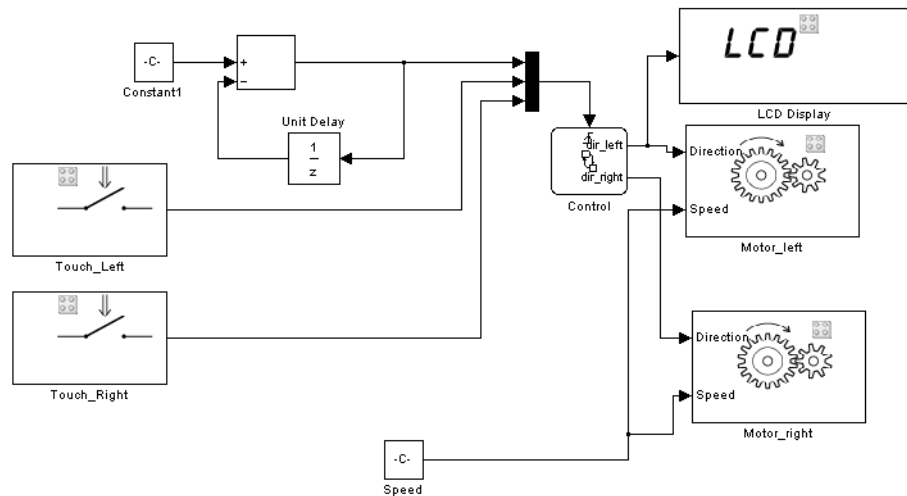

Figure 1-7: LCD Driver Connected to Control Block Output Signal
Figure 1-7 shows a typical application of the driver. Here the LCD driver block receives the `dir_left` signal from the Control block in the robot3 demonstration model.
When you implement the driver, you should place these files in the ECRobot target directory. In addition, the file `lcd_img.tif` is provided in the `ECRobot\solutions` directory for use as a block icon (as shown in Figure 1-7) if desired.
- Test the block by adding it to the `robot3` demonstration model as shown in Figure 1-7. Test your parameter validation code. Then run the model, and make sure your block displays the expected message in the MATLAB window.